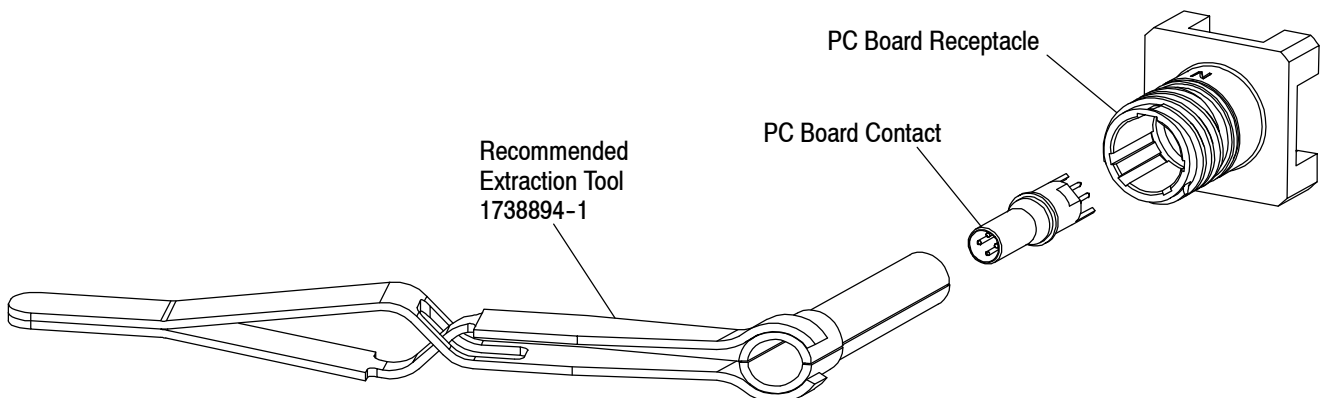

Figure 6
The pc board Quadrax Pin Contacts are keyed to line-up with the keys in the connector shells. Visually line up the keys and insert the contact from the front of the connector shell until the contact bottoms behind the retention clip. Refer to Figure 6.
1. Use recommended Extraction Tool 1738894-1 for removal of the contacts from the connector shell. Note that the contacts must be de-soldered from the pc board prior to removing them from the shell. See Figure 6.